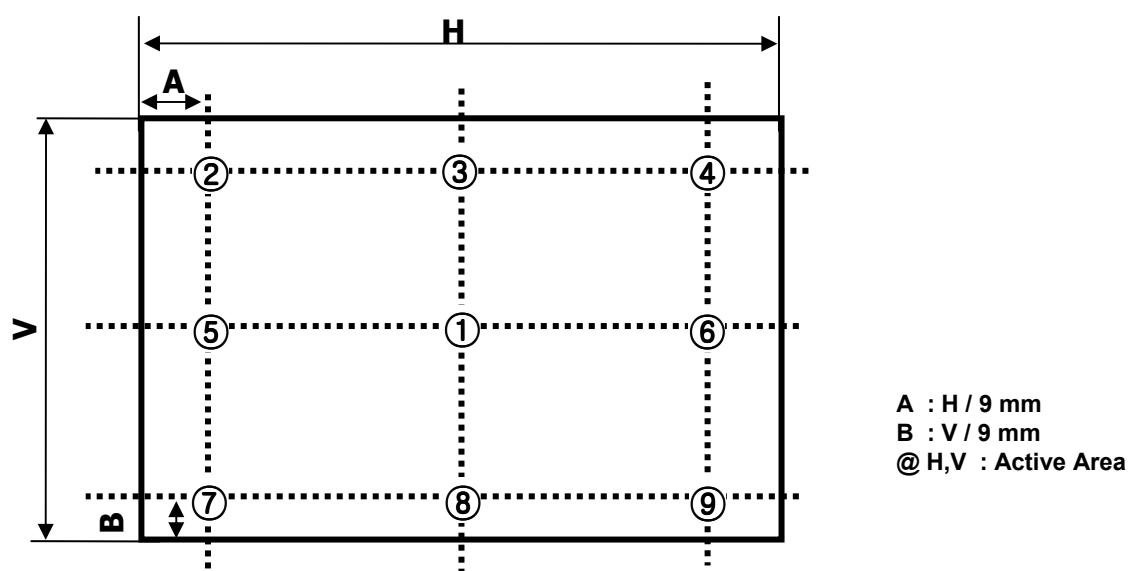

FIG. 7 9 Points for Luminance Measure
For more information, see the FIG. 7.
- (ii) Left eyeglass are placed in front of LMS and luminance is measured, rotating right eyeglass such as FIG 7. The notation for luminance measurement is "Lum(LE, LB-RW,1)".